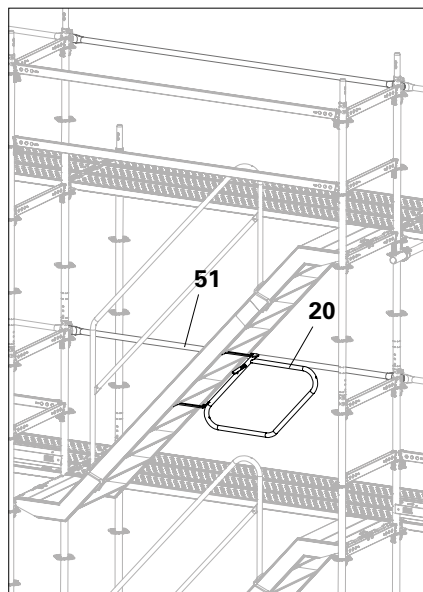

Fig. B8.07a
6. Fit Stair Guardrail UAH-2 (**20**) with upper suspension above the fifth step from the top. (Fig. B8.07a)
10. Remove the guardrail post (**51**) of the basic scaffold. (Fig. B8.07a)